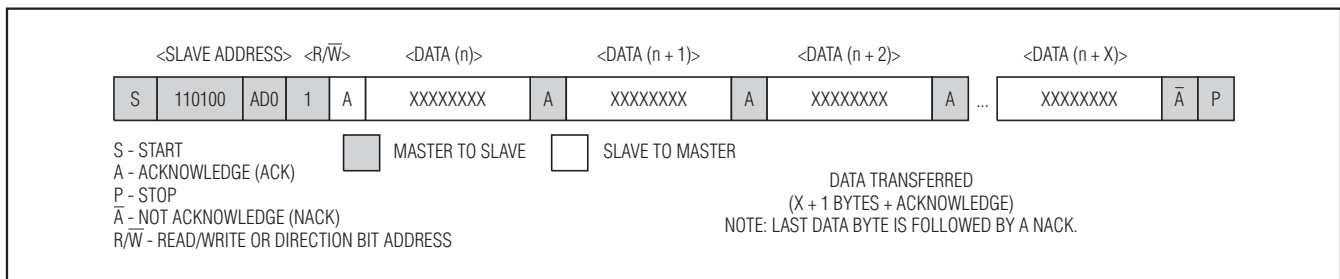

Figure 7. Data Read (from Current Pointer Location)—Slave Transmitter Mode
**2) Slave transmitter mode (DS1372 read mode):** The first byte is received and handled as in the slave receiver mode. However, in this mode, the direction bit indicates that the transfer direction is reversed. The DS1372 transmits serial data on SDA while the serial clock is input on SCL. START and STOP conditions are recognized as the beginning and end of a serial transfer (see Figure 7). The slave address byte is the first byte received after the master generates the START condition. The slave address byte contains the 7-bit DS1372 address, which is 110100 and ADO. Each slave address is followed by the